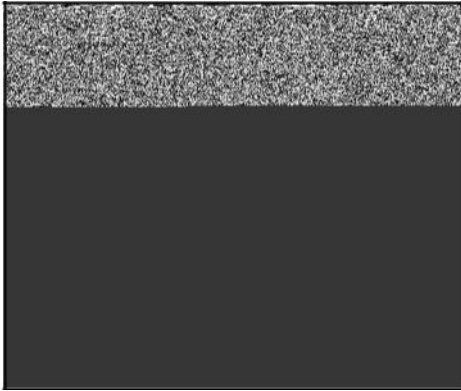

Figure 25
1. Insert RED test lead (A, Figure 25) into the V Ω receptacle and set the rotary switch to Diode position.
2. Insert BLACK test lead (B) into the COM receptacle in the meter.
3. Attach RED test lead clip to (D) of the WHITE wire (C). (It may be necessary to pierce wire with a pin as shown.)
4. Insert BLACK test lead (B) into harness connector.